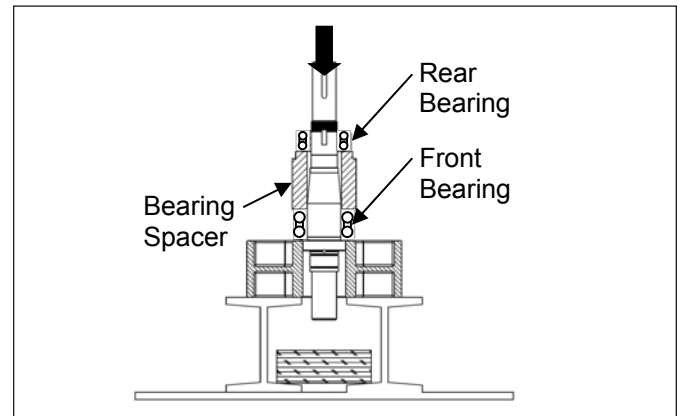

Figure 32. Removing Bearings and Sleeve from Shaft
**Assembly:** Clean both shaft ends and the body before assembling. Slide the shaft sleeves onto the shafts until they seat on the shaft shoulder. Align the slot in the shaft sleeve to the drive pin on the shaft (*Figure 32, A*). Apply a light film of lubricant to NEW o-rings and insert them in the body, o-ring carriers, and rotors (*Figure 32, B*). Once all of the o-rings are installed,